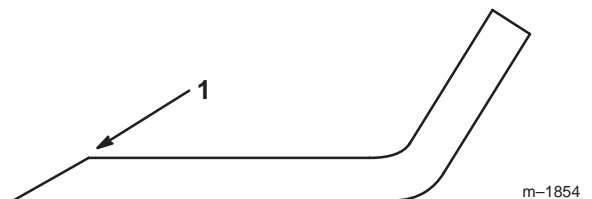

Figure 17
1. Use a file to sharpen the cutting edge at both ends of the blade (Fig. 17). Maintain the original angle. The blade retains its balance if the same amount of material is removed from both cutting edges.